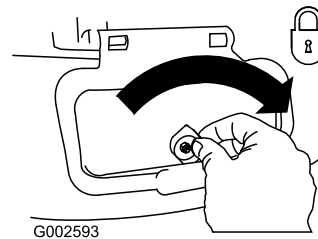

Figure 30
**Important:** Lock the side-discharge door after you close it (Figure 30).